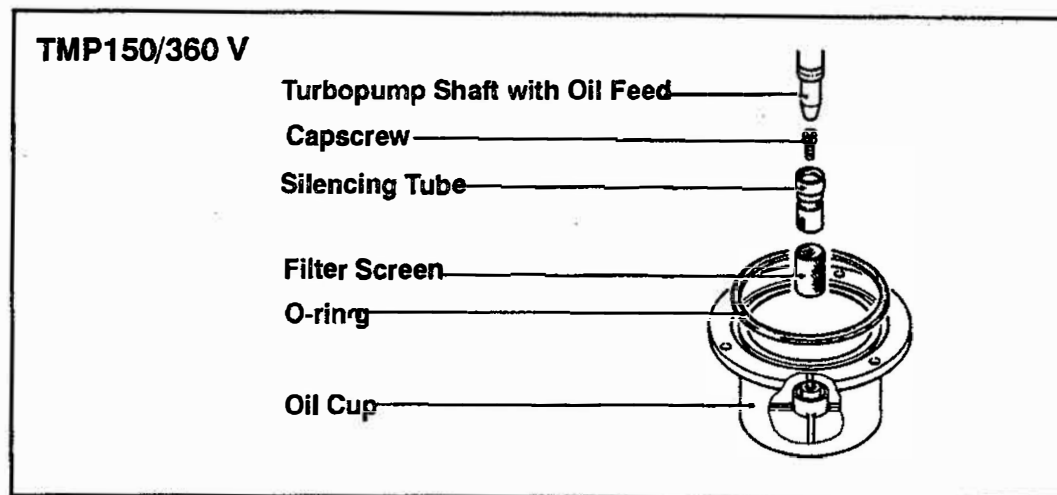

Fig 4-3. TMP150/360V Oil Cup, Silencing Tube & Filter Screen
- a. Unscrew the capscrew to remove the wire-mesh filter and silencing tube from the center of the oil cup (see Figure 4-3).
- c. Ensure that the oil-feed bores in the side of the silencing tube and in the center of the shaft aren't clogged (see Figure 4-3).
- d. Reinstall the silencing tube and wire-mesh filter into the oil cup (see Figure 4-3).